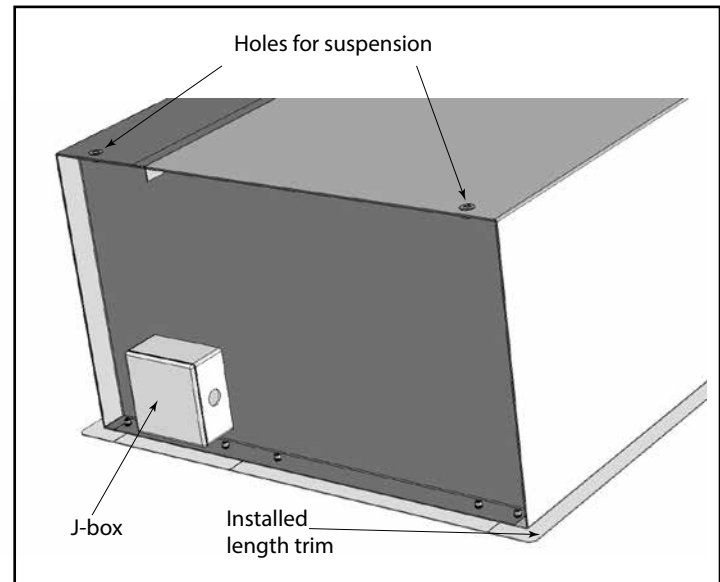

Figure 4
- A. The Architectural Recessed 12/16 series air curtain enclosure is equipped with four 13mm holes on the top of the unit for suspended mounting. **See Figure 4.**
**See Figure 4.**